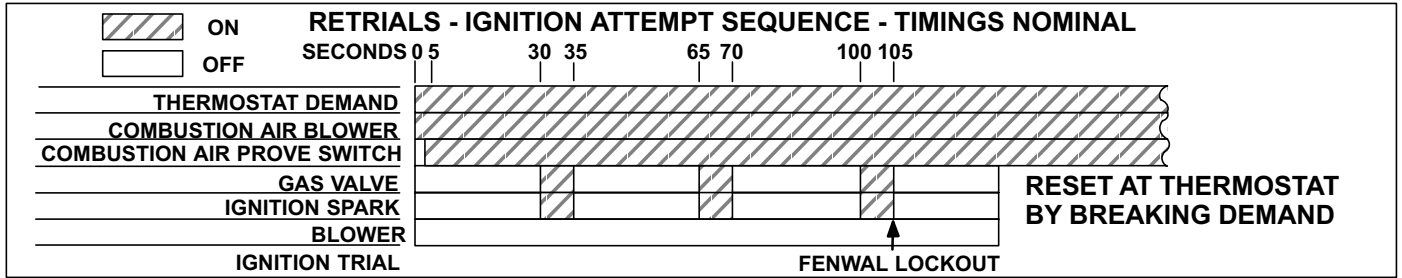

FIGURE 22
- d- Proper gas/air mixture is required for ignition on the first attempt. If there is any deviation, within tolerance of the unit, a second or third trial may be necessary for ignition. The control will lock out the heating system if ignition is not obtained within three trials and the (indoor) blower will not start. Reset after lockout requires only breaking and re-making thermostat demand. See figure 22 for the ignition attempt sequence with retrials (minimal timings given for simplicity). Loss of flame during a heating cycle is indicated by an absence of flame signal (0 microamps). If this happens, the control will immediately restart the ignition sequence and then lock out if ignition is not gained after the third trial.